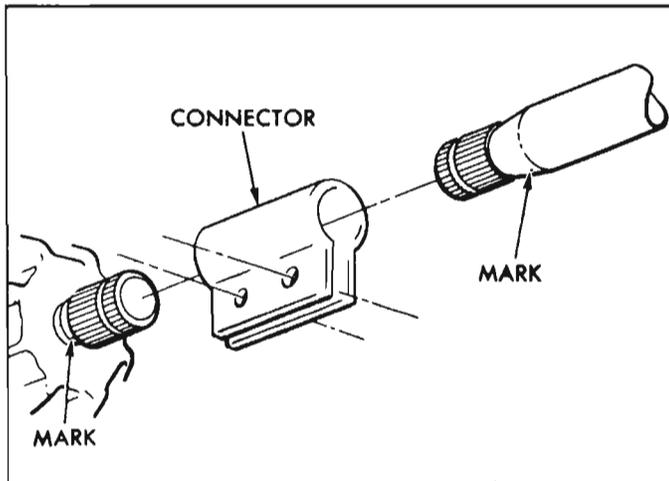

Fig. 4-22—Alignment of Steering Gear Shaft, Steering Shaft and Coupling
2. Guide steering shaft into coupling, aligning mark on the shaft with the sawcut in the coupling clamp. (See Figure 4-22.) If the steering wheel is installed, it should be set for straight ahead driving. Install the steering gear to frame attaching bolts loosely.